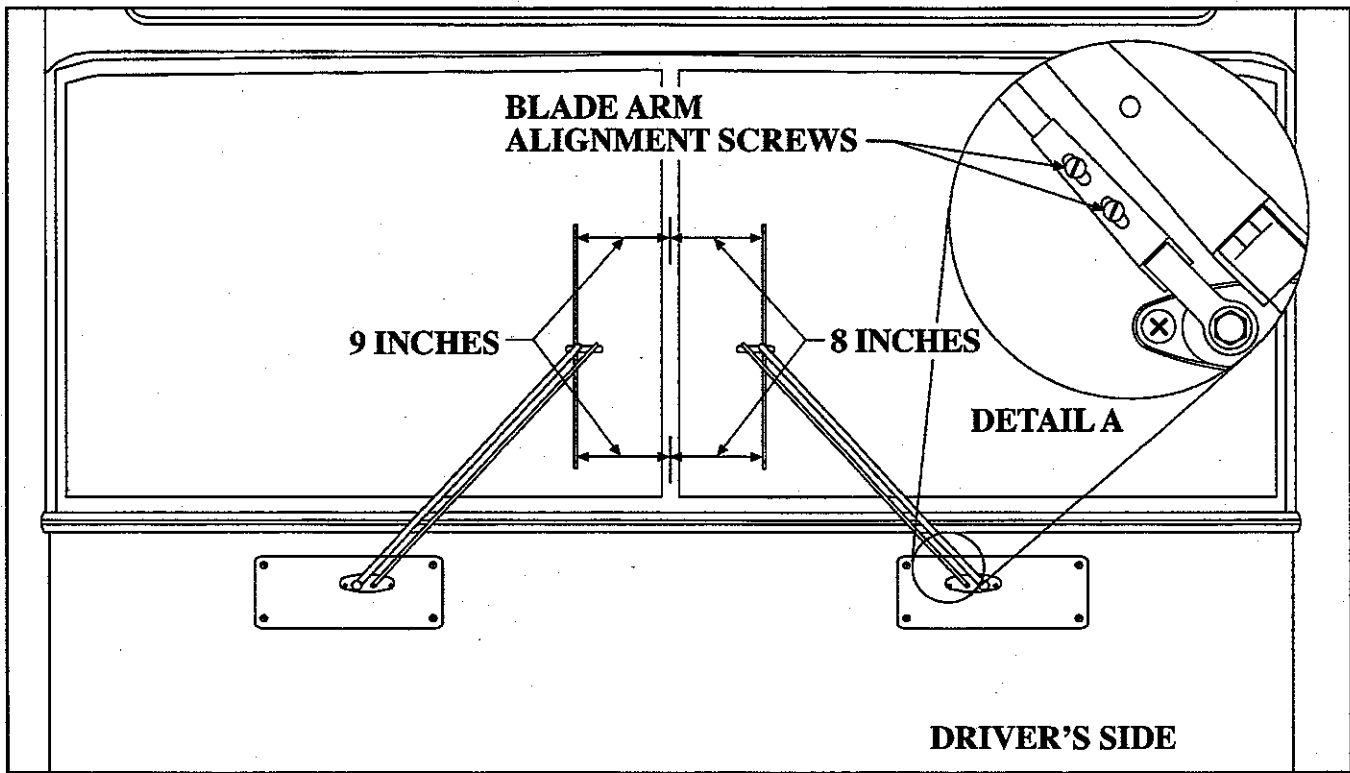

Figure 4—Blade Arm Alignment
See Figure 4—Blade Arm Alignment
3. Adjust the wiper blade for correct alignment. (See Figure 4—Blade Arm Alignment.)